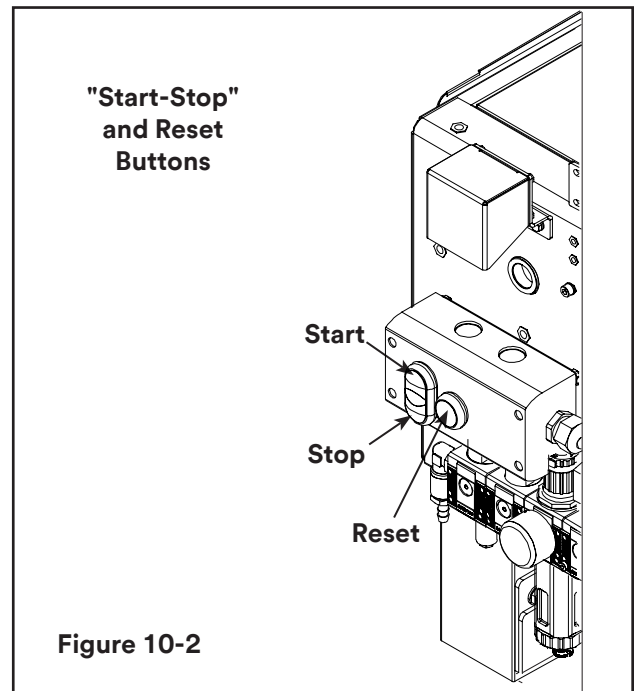

Figure 10-2
The box drive belts are turned on and off with the electric "Start/Stop" button on the side of the machine frame (**Figure 10-2**).
- Then Press Reset Button (**Figure 10-2**).
- Then press the Station "Start" Button (**Figure 10-2**).